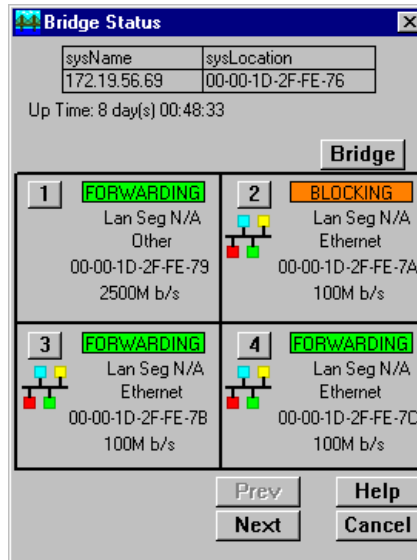

Figure 5-1. The Bridge Status Window
2. Click to select **Bridge Status....** The Bridge Status window, Figure 5-1, will appear.